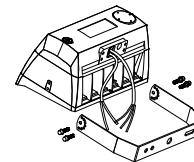

Figure 5
3. Flood Mounting (FM)
- STEP 1: First install two big screws (FIGURE 5)